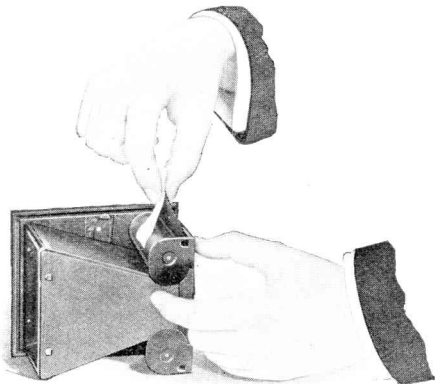

Fig. 1.
4. Hold ends of duplex paper and sticker together to prevent paper from loosening on reel. Release the spool retainer, as shown in Fig. 3, page 6 and lift out roll of film. Fig. 1.
5. Insert film cartridge in spool carrier and close up the movable arm against end of spool. Have the duplex paper ("B" in Fig. 1) lead from the top.